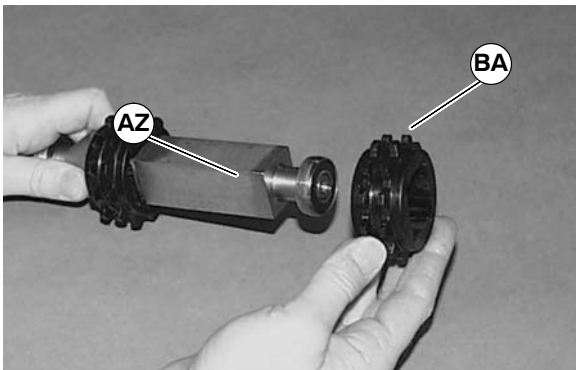

Figure 34
2. Slide free moving sprocket(s) (BA of Figure 34) off the end of pulley (AZ).